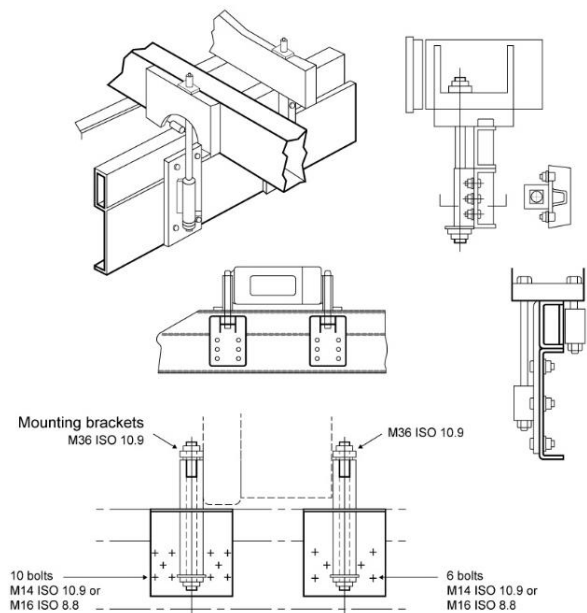

Figure 7: Lifting system attachment to chassis — recommended practices
- Attach the VMLS to the sub-frame in accordance with VSB6 Section H — Chassis so that it imparts forces into the chassis webs and isolates the chassis flange from stress raisers (see method shown in Figure 7).